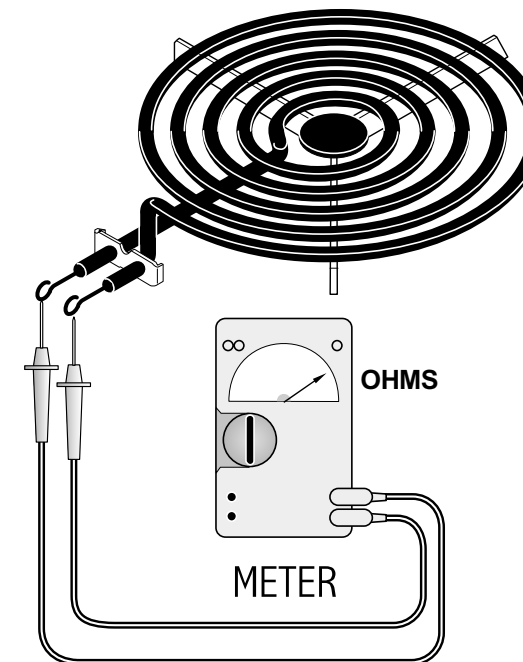

Fig. 3
3. Set ohmmeter to R X 10 scale and attach meter leads to element. A low OHMS reading (continuity) should be indicated, and this reading may vary slightly on each element tested. If infinite OHMS (open) is indicated, element must be replaced (see Fig. 3).